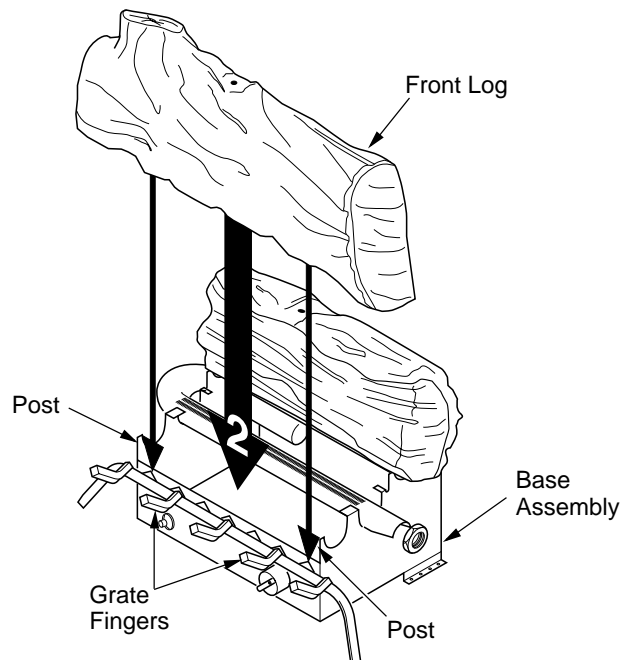

Figure 36 - Installing Front Log
2. Place the front log onto grate on front of base assembly. The log will fit down between grate fingers and posts on front of base assembly (see Figure 36). This log may be turned to face either direction.